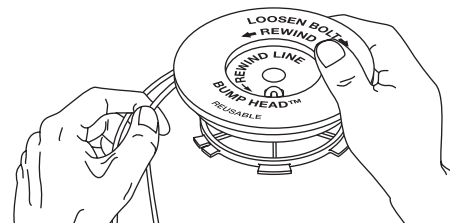

Fig. 28
7. Wind the lines in tight even layers, onto the reel (Fig. 28). Wind the line in the direction indicated on the inner reel. Place your index finger between the two lines to stop the lines from overlapping. Do not overlap the ends of the line. Proceed to step 12.